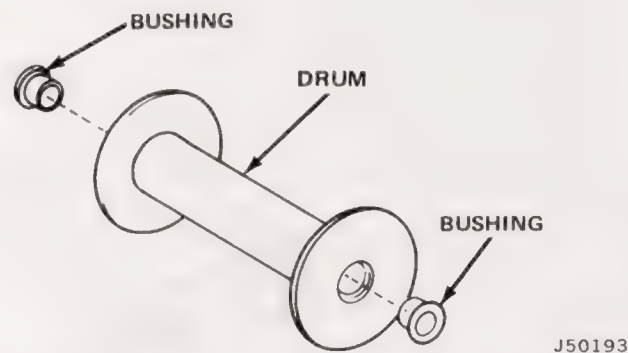

Fig. 5-29 Installing Drum Bushings
(4) Press two new drum bushings into drum, one in each end (fig. 5-29). Be sure bushings are pressed in straight and flange of bushings is down flat against shoulders in drum.